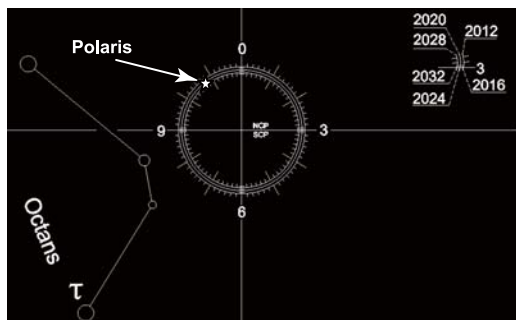

Fig 24
**For observing in the Northern Hemisphere:** find Polaris (the brightest star near the North Celestial Pole) in the polar scope by adjusting the angle of the (optional) **Equatorial Wedge** or tilt-head on the tripod. Use third party PolarisFinder application or APP to find the corresponding orientation of Polaris in the **Polar Scope** by simply entering the Date, Time, longitude and latitude of your observing location. Then move Polaris to that corresponding position in the polar scope by using the fine-tuning movements of the Equatorial Wedge or by moving the tilt-head on your tripod(Fig 24). If you cannot acquire the application tool to find the orientation of the Polaris, please refer to the " **The Orientation of Polaris in Polar Scope** " in the following portion.